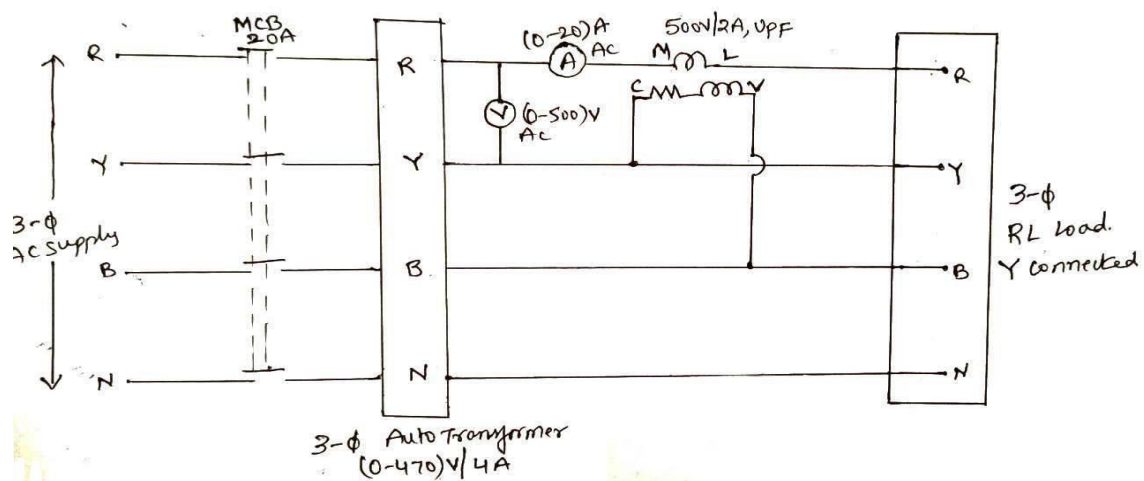

Fig 2 Circuit Diagram for measurement of 3-phase Reactive power using one wattmeter
1. Connect the circuit as per Fig.2